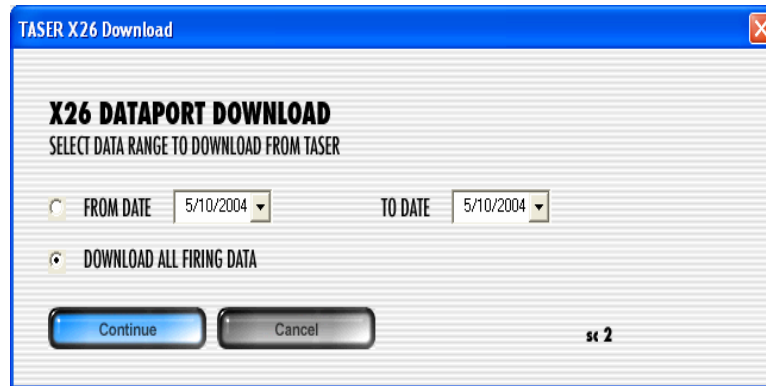

Figure 13
9. Select the desired date range or **DOWNLOAD ALL FIRING DATA** and click **Continue** (Figure 13).